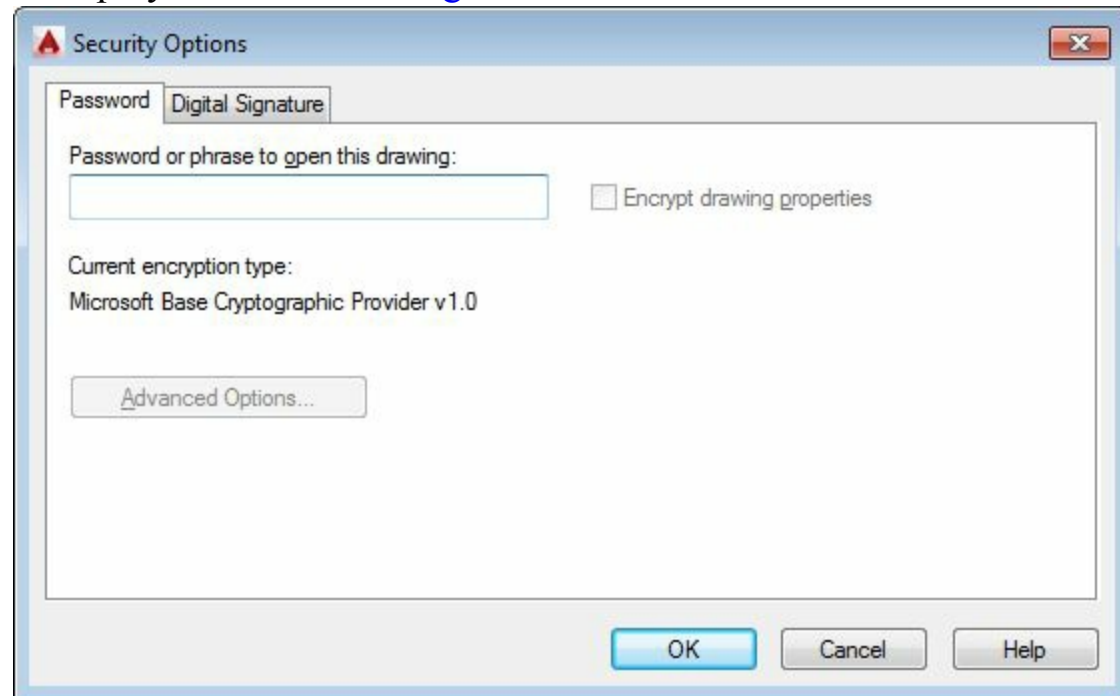

Figure-32. Security Options dialog box
- Click on the **Security Options** button in the drop-down. The **Security Options** dialog box will be displayed as shown in Figure-32.